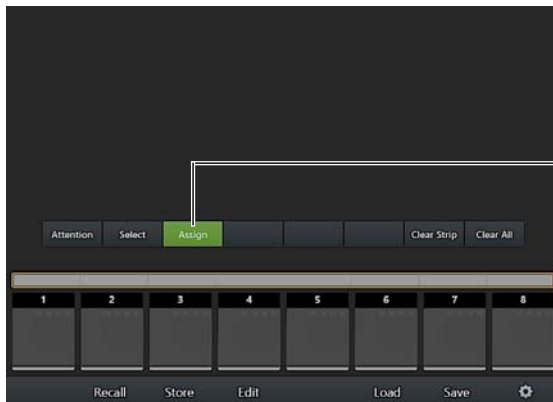

Figure 72. Assign mode enabled in the Layouts screen
- 2 Tap **Assign** to enable Assign mode. **Clear Strip** and **Clear All** appear to the right, and a banner appears across the top of the screen as shown in Figure 72.